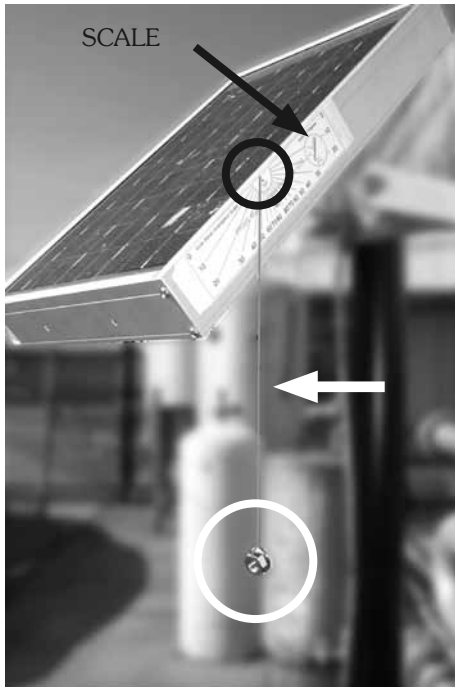

Figure 2.5—Solar panel orientation scale
- b. Attach one end of a string to the top center point on the scale (small black circle in Figure 2.5) and a weight to the other end of the string (large white circle in Figure 2.5).